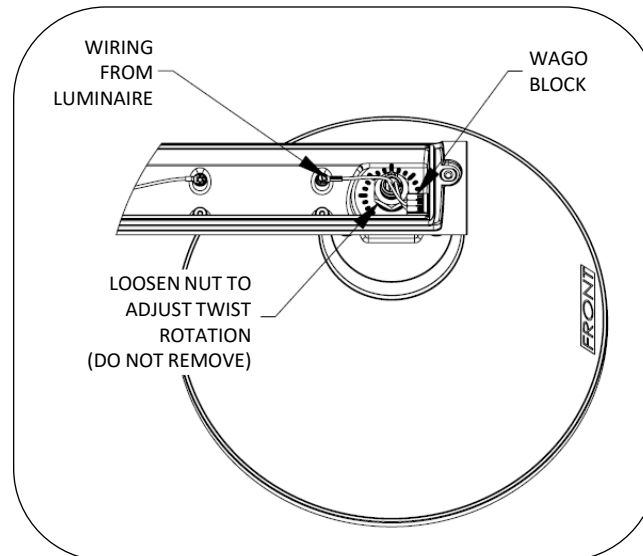

Fig. 8 – ADJUST TWIST ROTATION (AREA AND ACCENT LUMINAIRES)
1. With arm cover plate removed, disconnect lanyard and wiring to wago block at the luminaire hood, see Fig. 8, to allow access for socket to fit over nut.